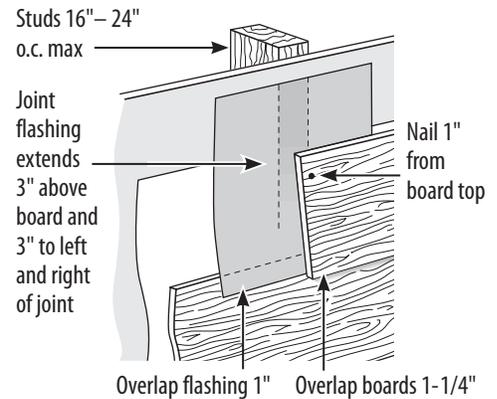

Fig. 8.10 **BUTT JOINT APPLICATION**
*CertainTeed recommends that butt end/joints be fastened into a stud or framing member (Fig. 8.9). If no stud or framing member is available, butt end/joints may be fastened into structural-rated sheathing (Fig. 8.10).*